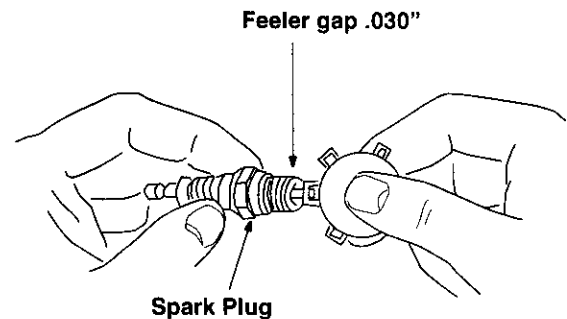

Figure 12
- Clean spark plug and reset gap to .030" at least once a season or every 50 hours of operation. See Figure 12. Spark plug replacement is recommended at the start of each season. Refer to engine parts list for correct spark plug type.